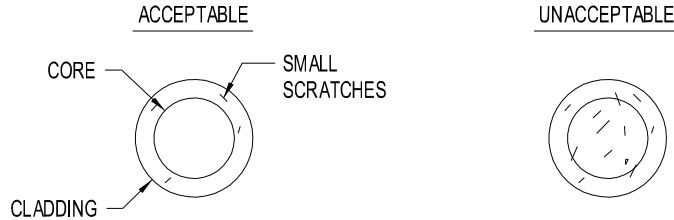

FIGURE 3
8.2 After completing final polishing step, core area must be free of epoxy, scratches, pits and cracks. See Figure 3.